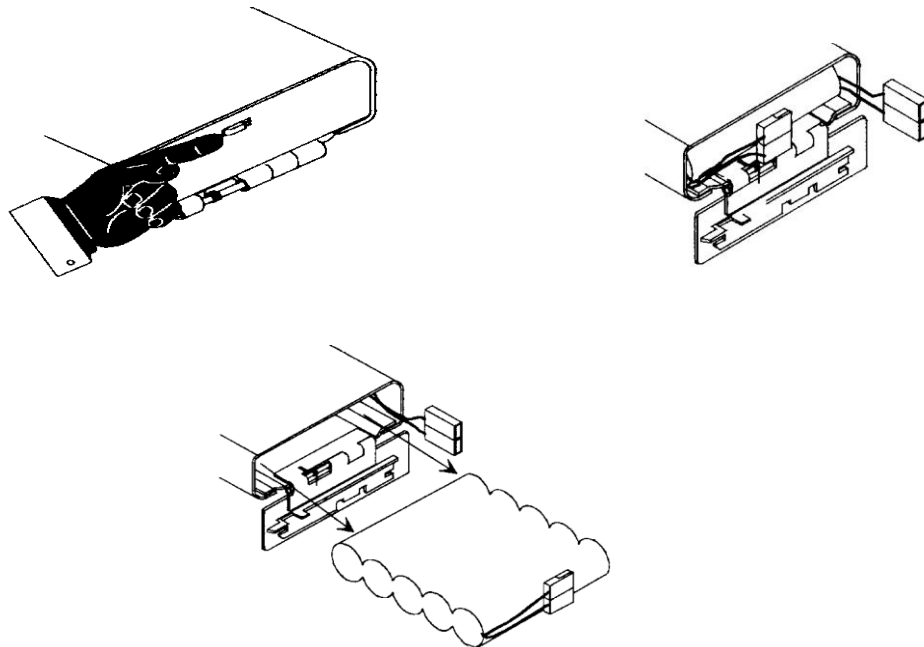

Figure 2.1
- 2.3 Open the battery compartment door by sliding the latch to the right. Disconnect the battery connector from the power source connector and slide the battery pack out of the compartment. See Figure 2.1.